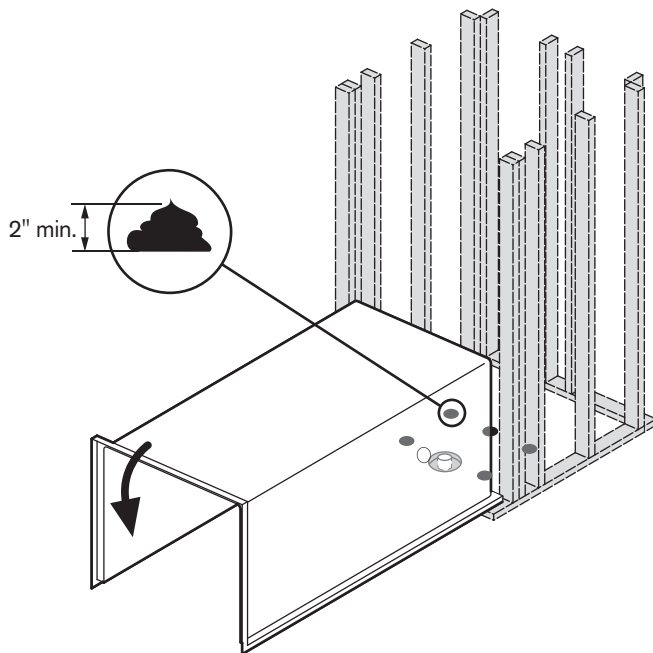

Figure 7
- 13 Place shower unit in pocket and tip forward so face is lying on the floor while you apply the mud set. Place thick (2" high, minimum) dollops following the pattern you marked on the floor. The mud set will fill the void to help support the pan. (Figure 7)